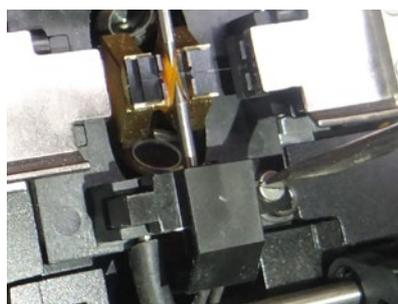

FIGURE 5.5
2. Loosen setscrews of electrodes cover and remove the electrodes cover, as shown in Figure 5.5